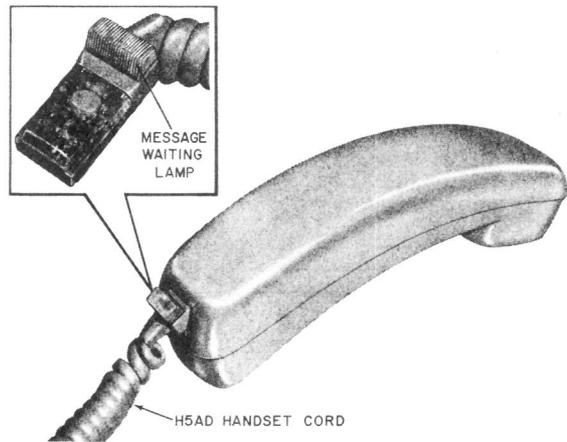

Fig. 15—H5AD Handset Cord (Message Waiting Lamp)
3.11 If message waiting lamp feature is required, an H5AD handset cord must be used (Fig. 15) the lamp equipped end of the cord plugs into the hand telephone set. See Tables H and I when used with 1A1, 1A2, and 6A KTS.